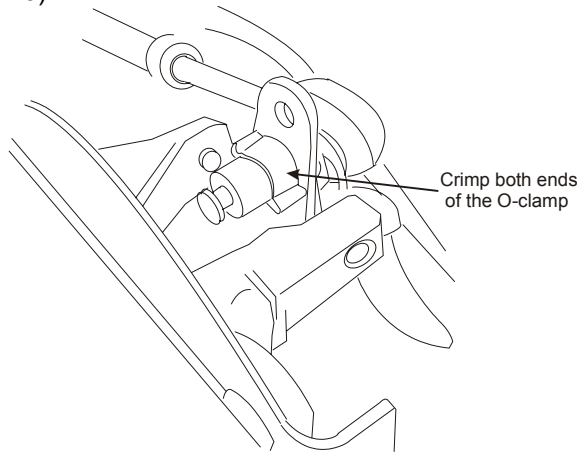

Figure 4.5
- ☐ Fit the O-clamp over the spindle to secure the pull bracket against the throttle arm and crimp both ends of the O-clamp (Figure 4.5).